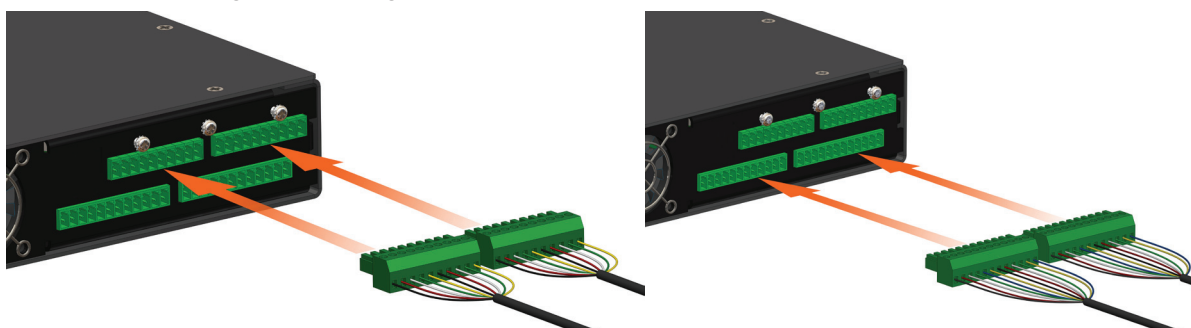
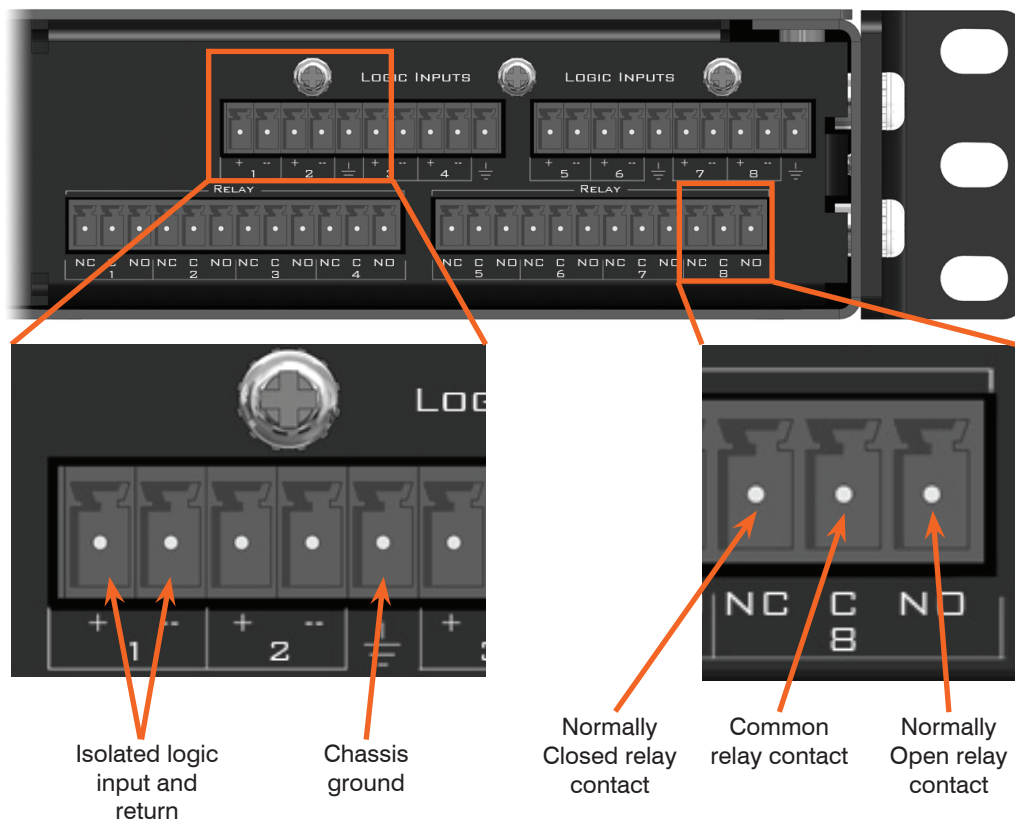

Figure 12 - Connecting Logic and Relay Lines
Figure 13 - Logic and Relay Connector Detail
The IED1200 provides eight (8) logic sensor inputs and eight (8) dry contact outputs that can be used to trigger announcements, mute the system, provide control to external systems, or indicate a fault status. As required for the application, attach logic input lines and relay output lines to the terminal blocks provided, as shown in Figure 12 and Figure 13.
Each logic input is isolated and terminations are made by connecting the signal to the + terminal while using the – terminal for the return path to the signaling device. Pins 5 and 10 on each connector provide a reference to chassis ground. Refer to Figure 13 for details on the logic and relay terminals.